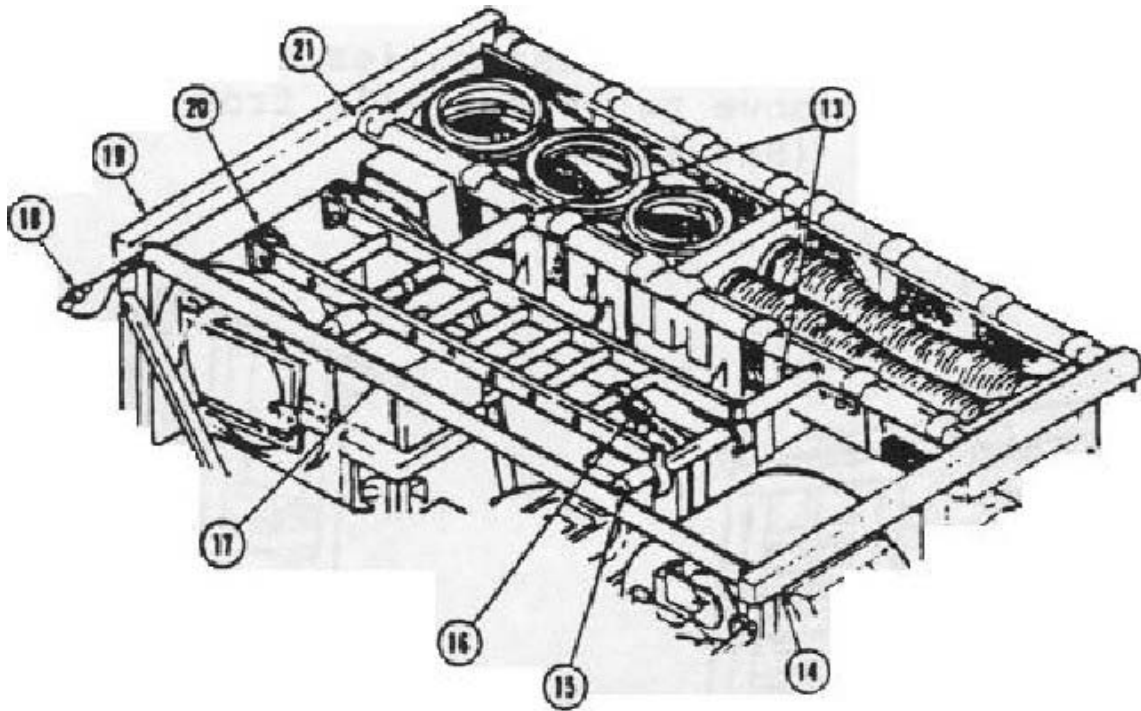

Figure 3-15
- i. Locate and remove steps (10) from midsection of trailer and install steps on washer platform (1).
- j. Adjust leveling plates and brace with footing platform as needed. (See Figure 3-15)
- n. Position ladder (20) on right beam (22) as required.
- o. Remove contents from hose basket assemblies (23). (See Figure 3-15)